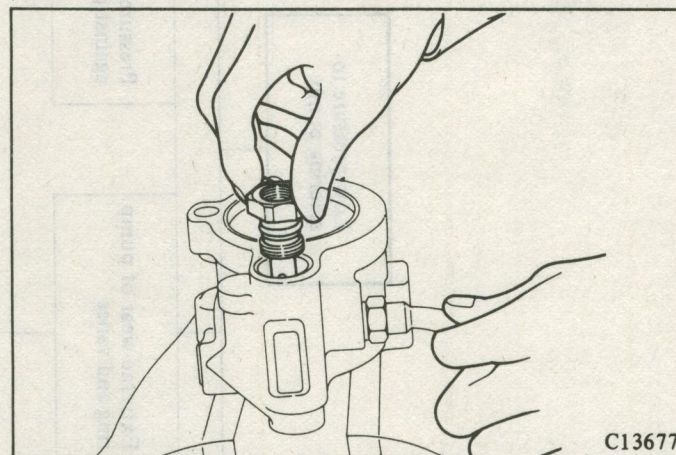

Fig. 95 Removing the Fitting Assembly
- (3) Remove the fitting assembly using a proper wrench. (Fig. 95)